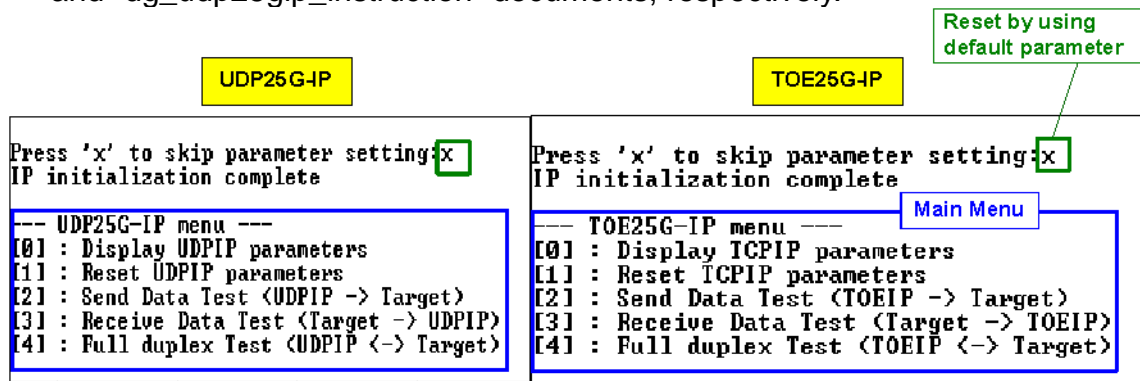

Figure 2-11 Initialization complete
- iv) If the user wishes to skip parameter setting and use default parameters to start the system initialization, input 'x' as shown in Figure 2-11. If any other keys are entered, the menu for changing parameter will appear, similar to the “Reset TCPIP/UDPIP parameters” menu. The examples of running the main menu of TOE25G-IP, and UDP25G-IP are described in “dg_toe25gip_cpu_instruction” and “dg_udp25gip_instruction” documents, respectively.